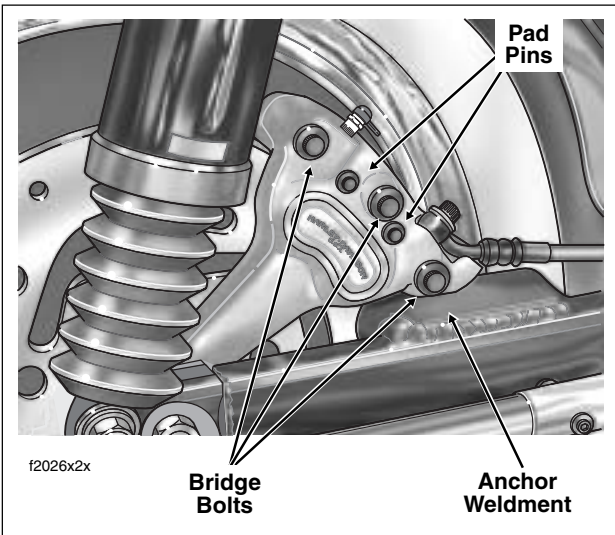

Figure 2-62. Loosen Both Pad Pins
2. Loosen both pad pins, but do not remove. See Figure 2-62.
1. See Figure 2-62. Remove two pad pins. Remove brake pads from caliper housings.